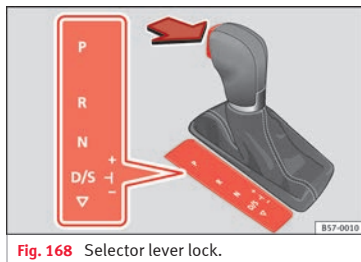

Fig. 168 Selector lever lock.
- Press the brake pedal *and*, at the same time, hold the lock button in the direction of the arrow » **Fig. 168.**